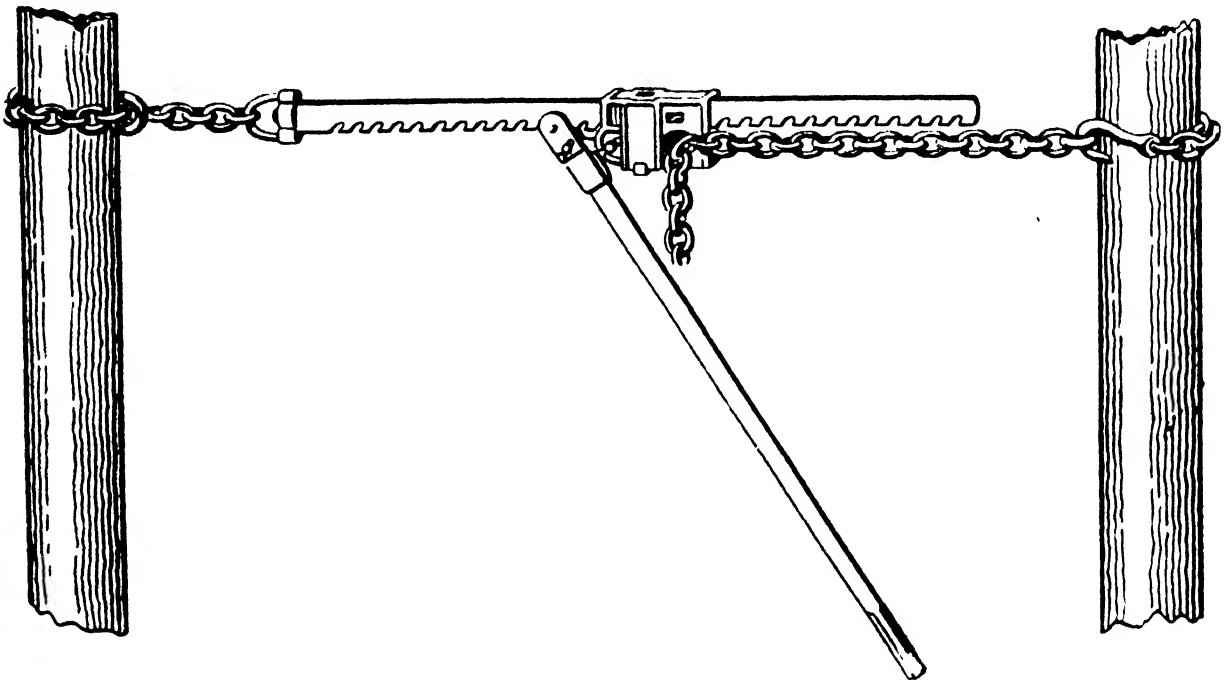

FIG. 44.—The Pit-prop Remover.
**The Pit-prop Remover.**—There is a tool to be seen at all collieries which could with profit be adopted by erecting engineers. It is the grab-lock, or pit-prop remover, and is often called the Silvester, from the inventor's name. The drawing (Fig. 44) will convey the idea, and as will be noted there is a rack and lever movement, while inside the box-like body there is a spring pawl which arrests the back-